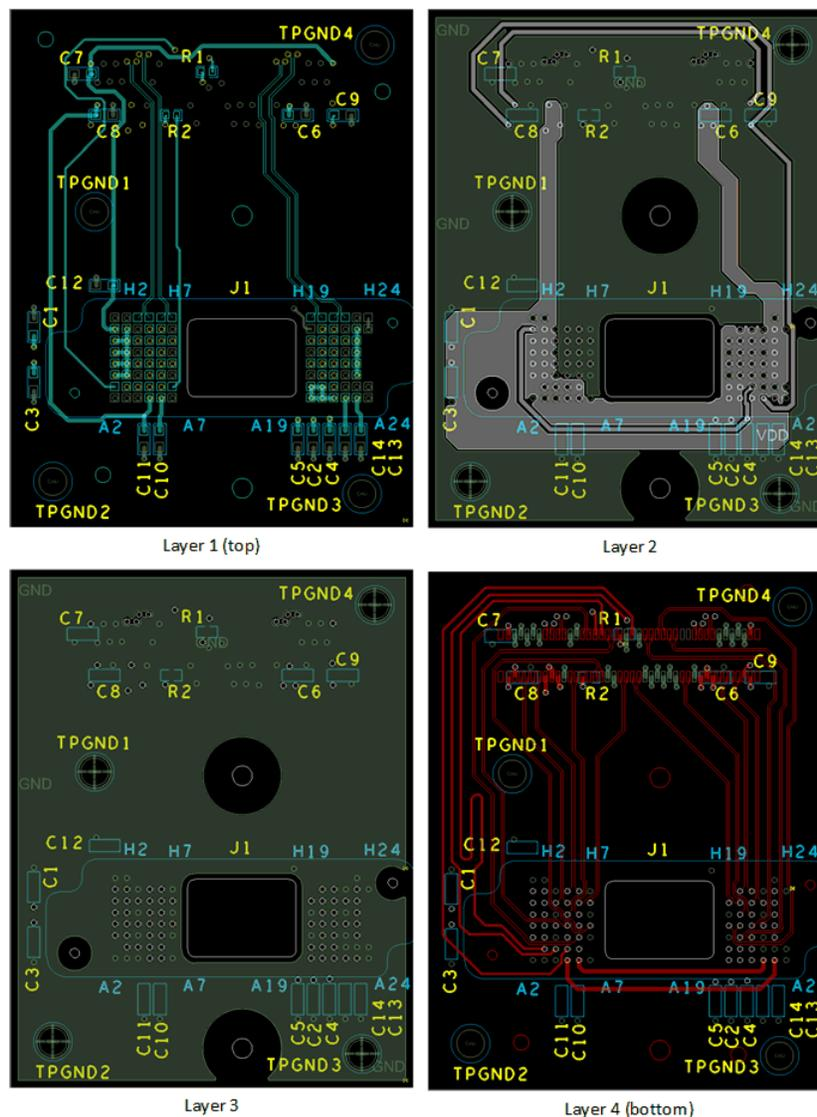

图 9. Power Supply Connections
- Minimize vias, layer changes, and turns for the HS bus signals. Refer to 图 9.
- Minimum of two 220-nF (35 V) capacitors - one close to  $V_{BIAS}$  pin. Capacitors C10 and C14 in 图 9.
- Minimum of two 220-nF (35 V) capacitors - one close to each  $V_{RST}$  pin. Capacitors C11 and C13 in 图 9.
- Minimum of two 220-nF (35 V) capacitors - one close to each  $V_{OFS}$  pin. Capacitors C4 and C12 in 图 9.
- Minimum of four 220-nF (10 V) capacitors - two close to each side of the DMD. Capacitors C1, C3, C2, and C5 in 图 9.